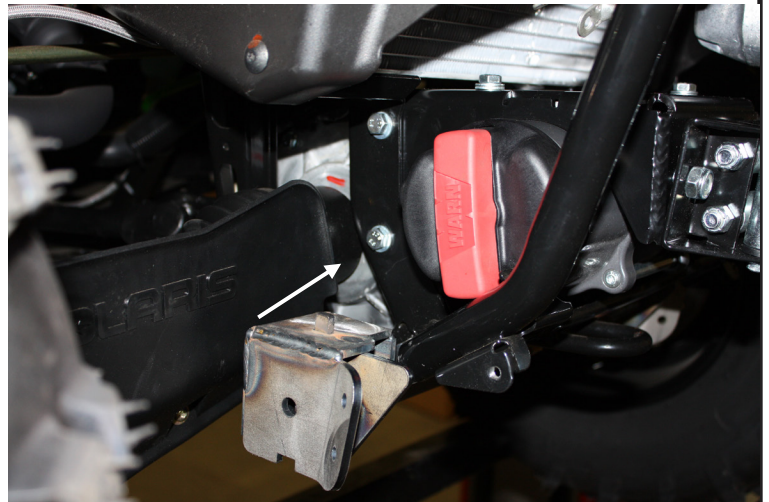

Figure 3
3. Remove the lower winch mount fasteners shown in figure 3.